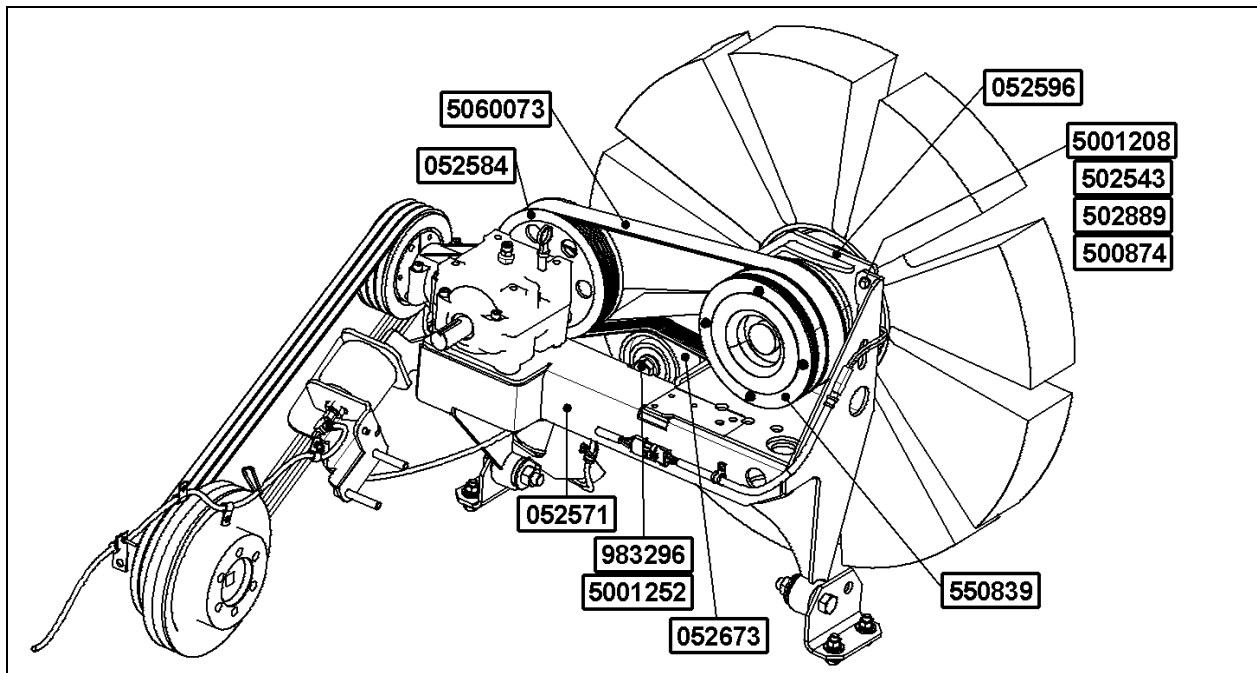

FIGURE 8
22. Install support plate and fan clutch assembly onto the mounting base and secure using 3 carriage bolts (5001208), flat washers (500874), split-lock washers (502889) and nuts (502543) (Refer to figure 8).
23. Route clutch power cable along the mounting base as per figures 8 and 11. Fix power cable connector onto support plate and mounting base using 2 nylon cable ties (504637). Drill 7-mm holes in order to install quick mounting wire clamps (509815) so as to secure cable.